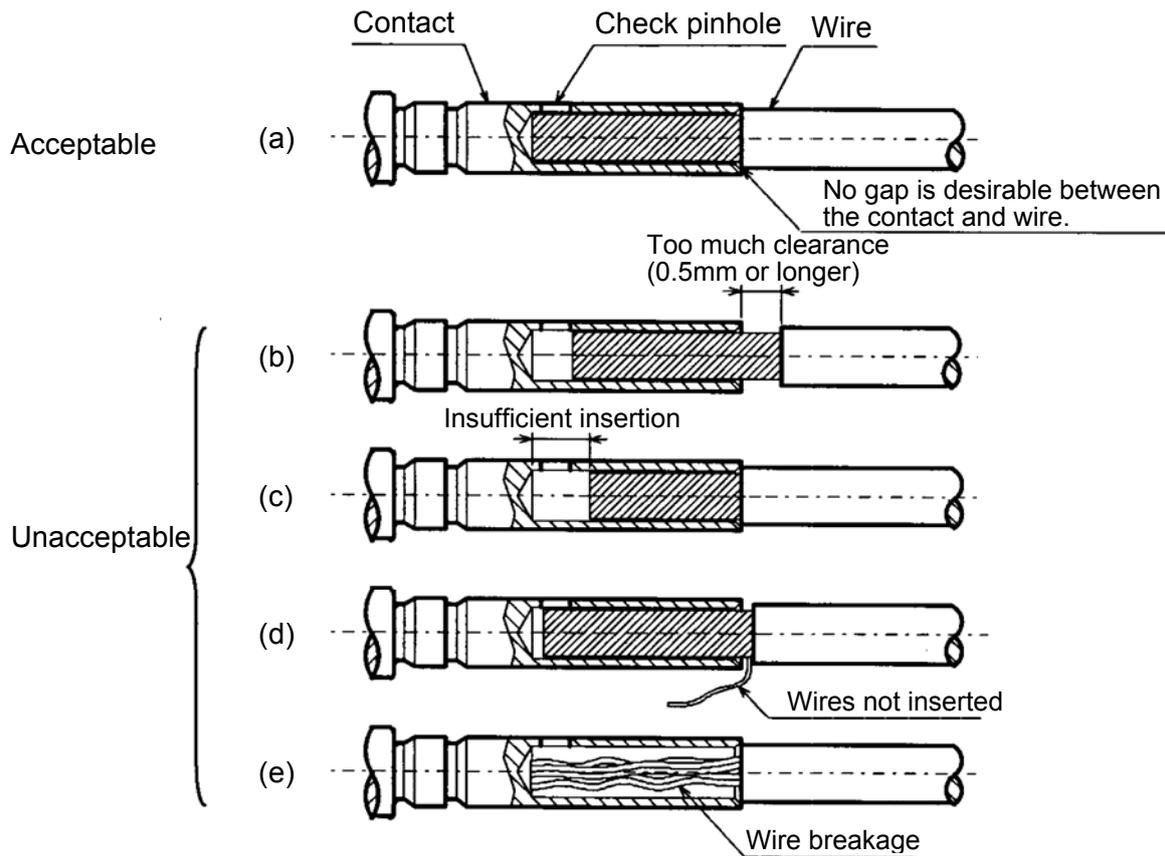

Figure 11. Wire Insertion
- (1) "L" length is a recommended dimension. Use an appropriate length according to wire type and wire insertion condition (Figure 11).
- (2) Ensure not to damage or lose the individual wires while stripping. Keep the stranded wires from loosening.
- (3) For jackets which are difficult to remove, part of the jackets may stick to the conductor. Remove any jacket fragments from the conductor.
- (4) Perform crimping or soldering immediately after removal of the jacket before the conductor surface is oxidized.
Insert the bare conductor without the jacket into the contact deeper than the check pinhole on the contact (See Figure 11).
(a) The wire insertion condition shall not be any of "unacceptable" examples shown in Figure 11.